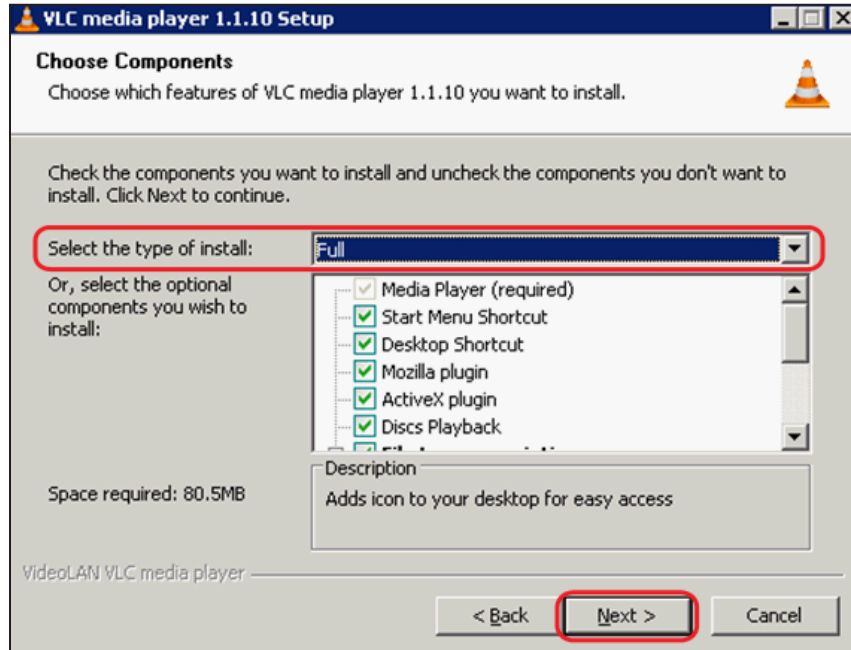

Figure 47. VLC Media Player Components Window
- The VLC media player components window appears (see figure 47). Make sure the **Full** option is selected from the **Select the type of install** drop-down menu. Click **Next**.